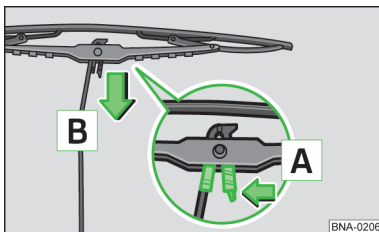

Fig. 60
- Press the release   fig. 60 and simultaneously pull the wiper blade in the direction of the arrow .